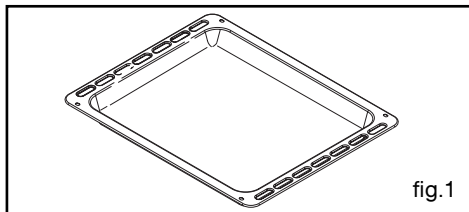

fig.1
• Plat lèchefrite multi-usages fig.1